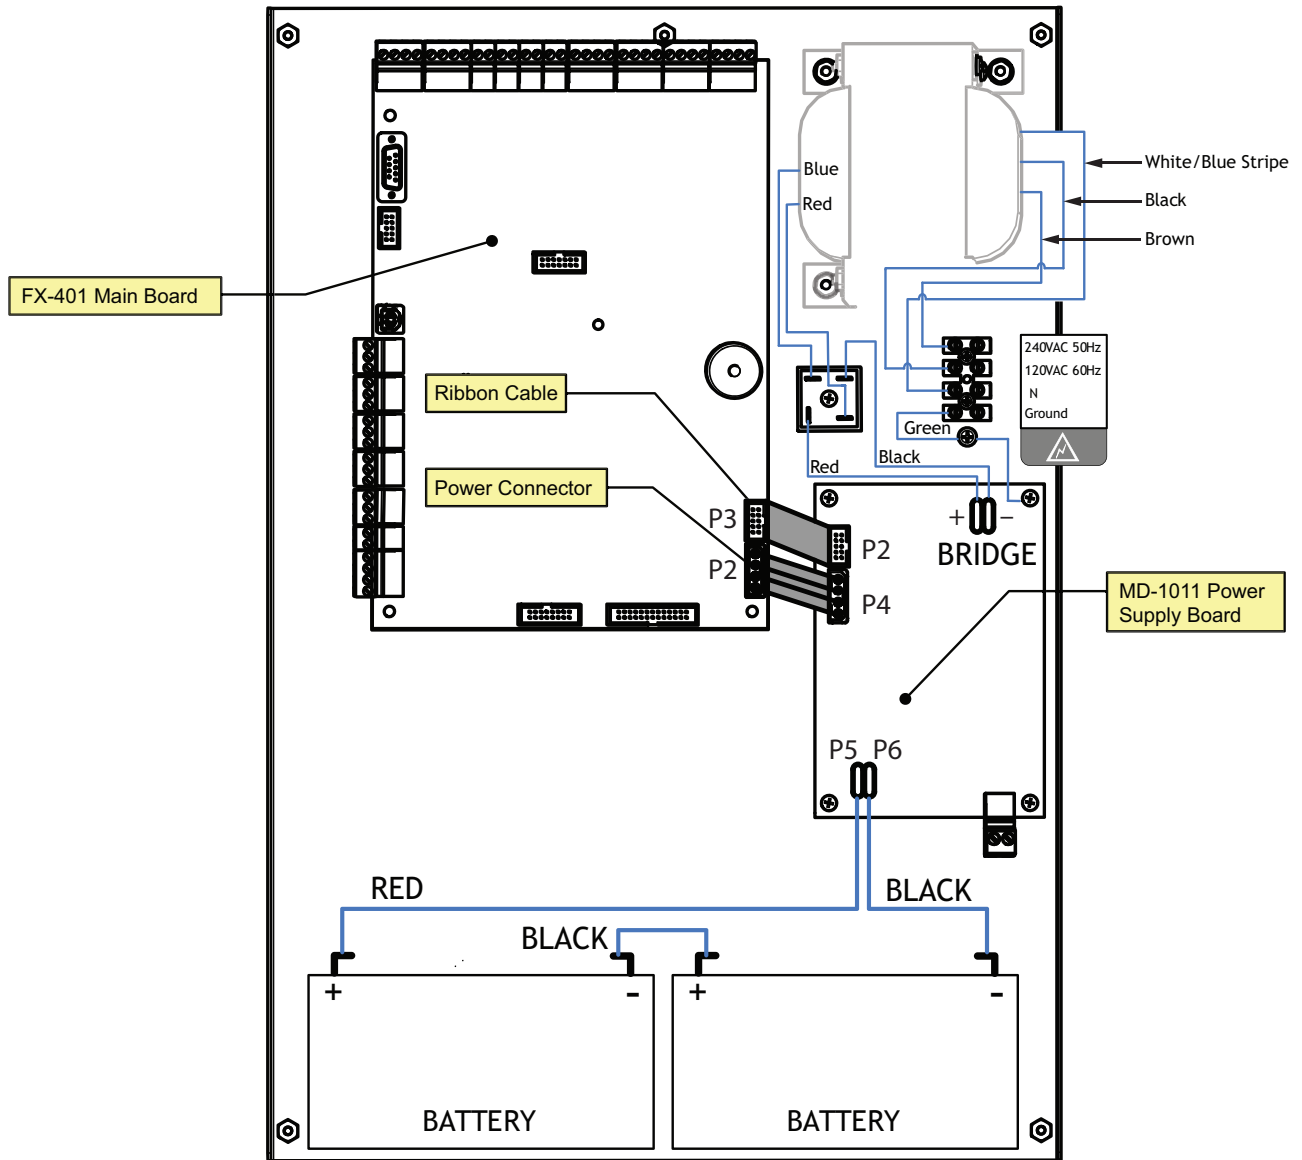

Figure 30 Main Power Supply Wiring and Connections
Wire the power supply as shown in Figure 30 and adhere to the following:
- Wire the AC power to the AC wiring terminals as shown in Figure 30 using the proper wire gauge with 600 volt insulation and proper over current circuit protection that complies with local codes.